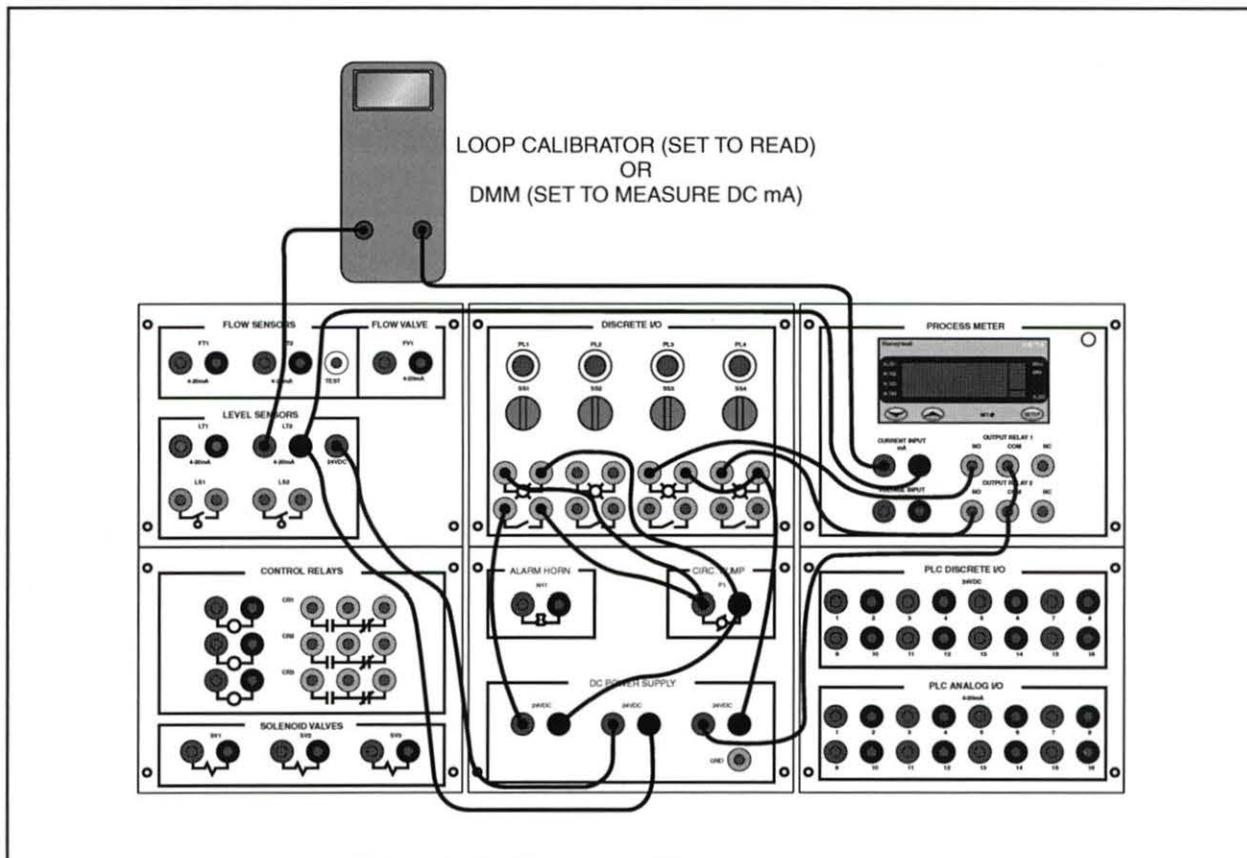

Figure 25. Calibration and Measurement Circuit
3. Connect the circuit shown in figure 25.